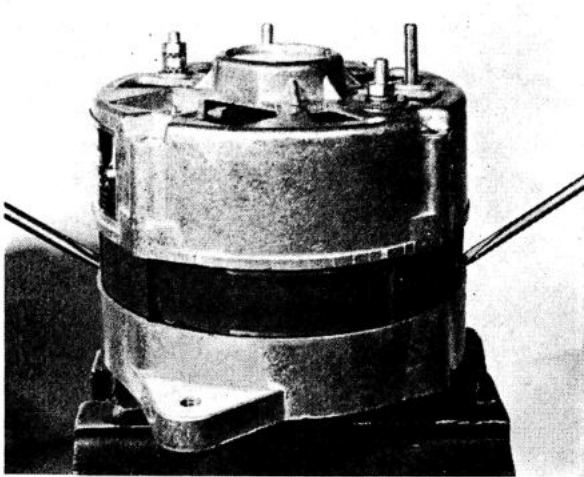

Fig. 3-7. Dismantling the alternator
5. Remove the stator and slip ring end shield with the help of two screwdrivers, which are inserted in two of the sockets between the stator and drive end shield, see Fig. 3-7.